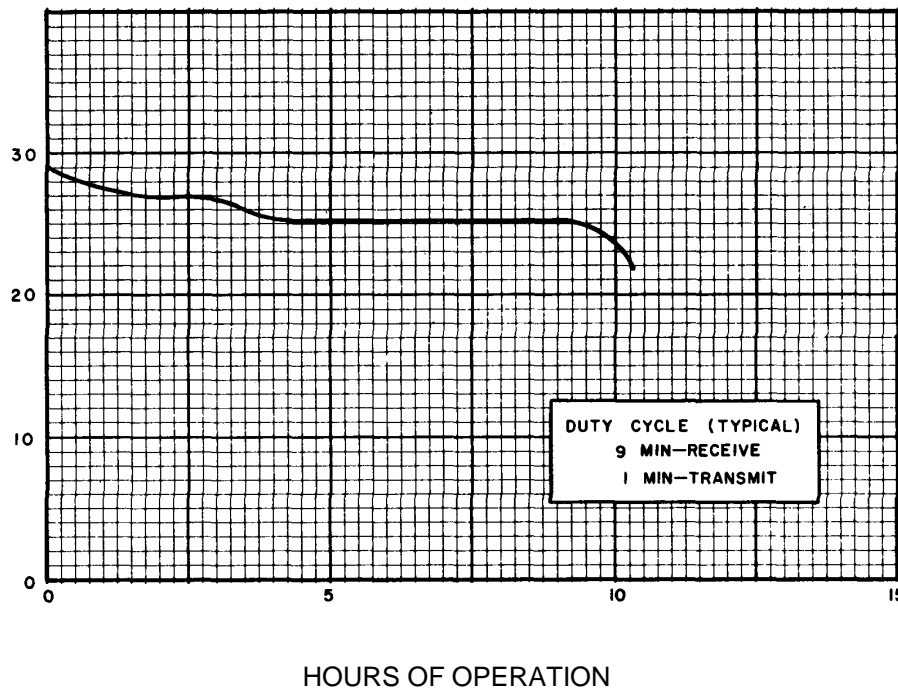

Figure 4-7. Storage Battery BB-451/U, Typical Rate of Discharge
(2) STORAGE BATTERY BB-451/U, TEST DATA. - Trouble isolation considerations for Storage Battery BB-451/U are concerned with its ability to provide the required dc voltage for operation of RT-695A/PRC-41. Normal procedure for checking the level of charge of a battery is by measuring the terminal voltage developed across a very high load resistance. This procedure provides very little indication when applied to BB-451/U because of the characteristics of charge and discharge (figure 4-7). Instructions for battery use and a log for recording battery charges are printed on the inside of the battery cover.
(3) POWER SUPPLY PP-3700/PRC-41, TEST DATA. - Trouble isolation considerations for Power Supply PP-3700/PRC-41 are concerned with the ability of the power supply to provide the required 26.5 volts for operation of RT-695A/PRC-41. If PP-3700/PRC-41 does not provide the required 26.5-volt dc supply, connect it into the test setup described in paragraph 4-6d(3)(b), and perform the trouble isolation procedures of table 4-7.